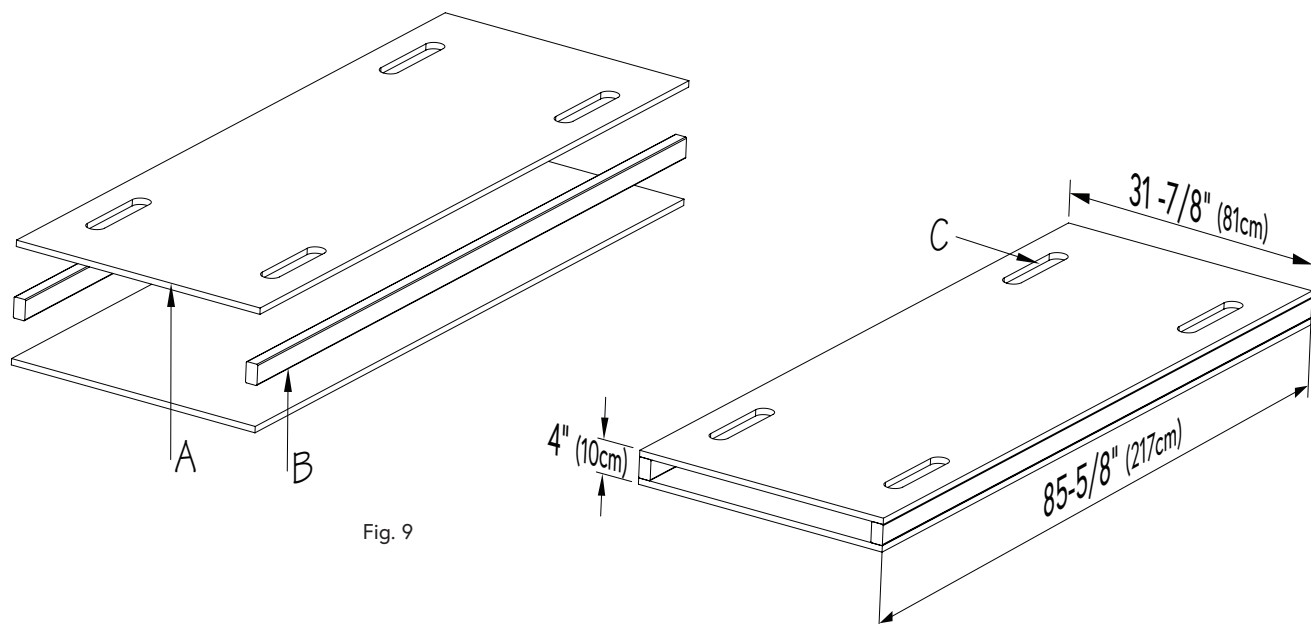

Fig. 9
4.3 If the Fastlane® Tread is being recessed into the pool floor, construct a mold using plywood (A) and lumber (B) as shown in Figure 9. The intent of the mold is to form the recessed area in the pool floor during the gunite application.